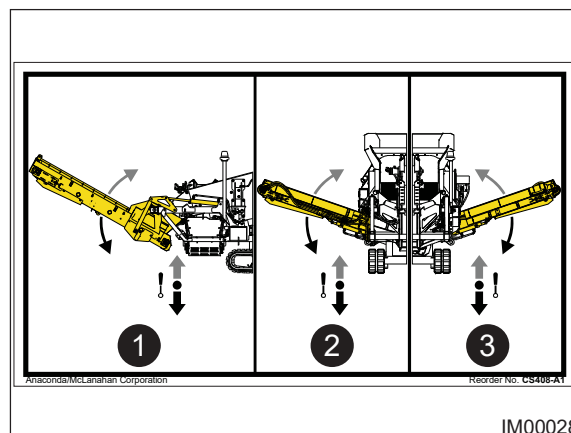

Fig: 7.5 - Control Levers
4. Slow and carefully push DOWN the Control Lever (Item 1, Fig: 7.5) to unfold the oversize conveyor.